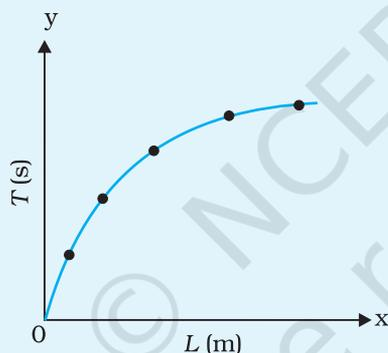
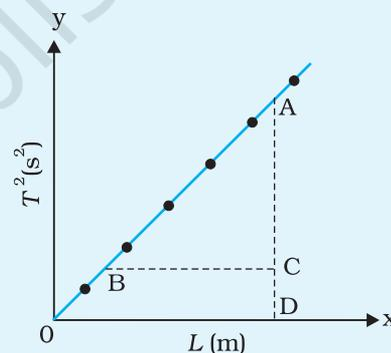

Fig. E 6.3: Graph of L vs T
Fig. E 6.4: Graph L vs T^2
9. Take effective length L along x-axis and T^2 (or T) along y-axis, using the observed values from Table E 6.1. Choose suitable scales on these axes to represent L and T^2 (or T). Plot a graph between L and T^2 (as shown in Fig. E 6.4) and also between L and T (as shown in Fig. E 6.3). What are the shapes of $L-T^2$ graph and $L-T$ graph? Identify these shapes.
Plot a graph between L versus T from observations recorded in Table E 6.1, taking L along x-axis and T along y-axis. You will find that this graph is a curve, which is part of a parabola as shown in Fig. E 6.3.
Plot a graph between L versus T^2 from observations recorded in Table E 6.1, taking L along x-axis and T^2 along y-axis. You will find that the graph is a straight line passing through origin as shown in Fig. E. 6.4.